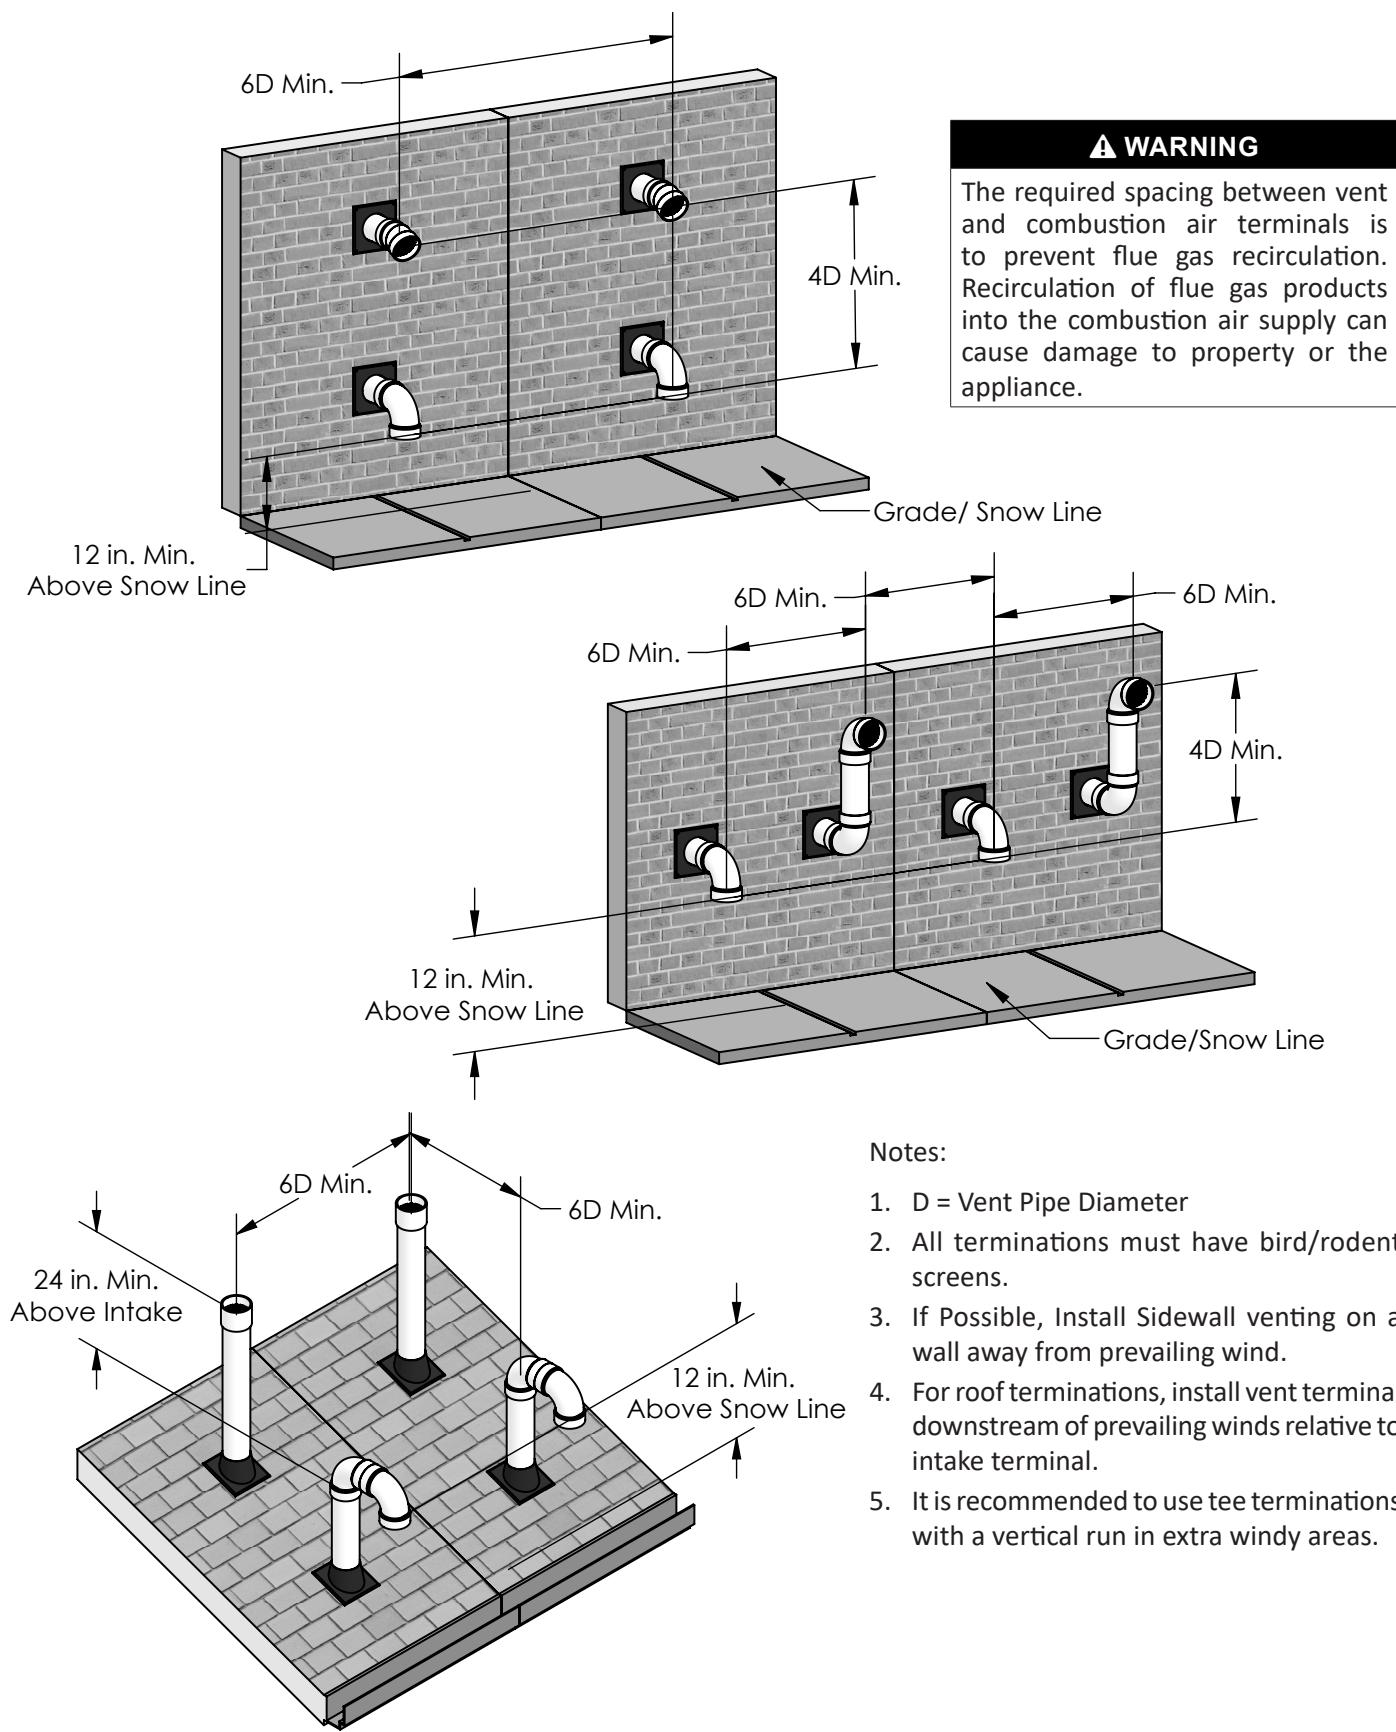

Figure 15: Multiple Appliance Direct Vent Termination
- a. Multiple appliance vent terminations are shown in Figure 15.
- a. Multiple appliance combustion air terminations are shown in Figure 15.